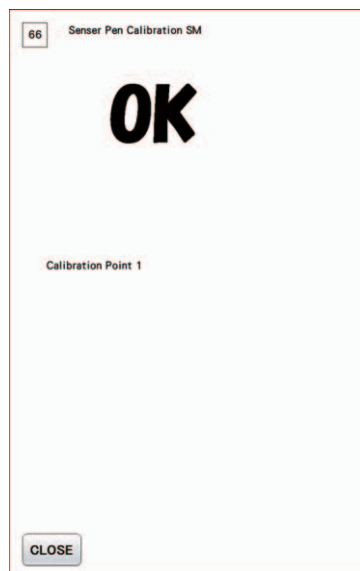

Fig.10
- Calibration is completed when "OK" appears on the screen after the third point has been pressed. (Fig.10)